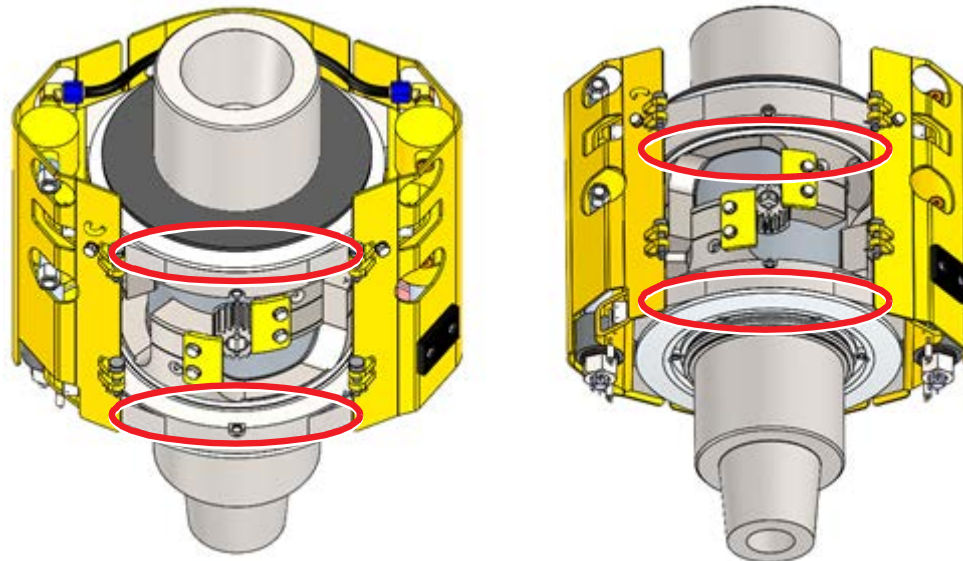

Figure 1: Labyrinth Seal Locations
1. Remove the middle guard panel on the side with the two grease nipples in order to see the outside surfaces of the labyrinth seals (see Figure 1). Clean the surfaces so the areas around the labyrinth seals are free of dirt and grease.
4. Repeat the previous step until new and clean grease is observed coming out of the labyrinth seals. See Figure 1 on page 1.